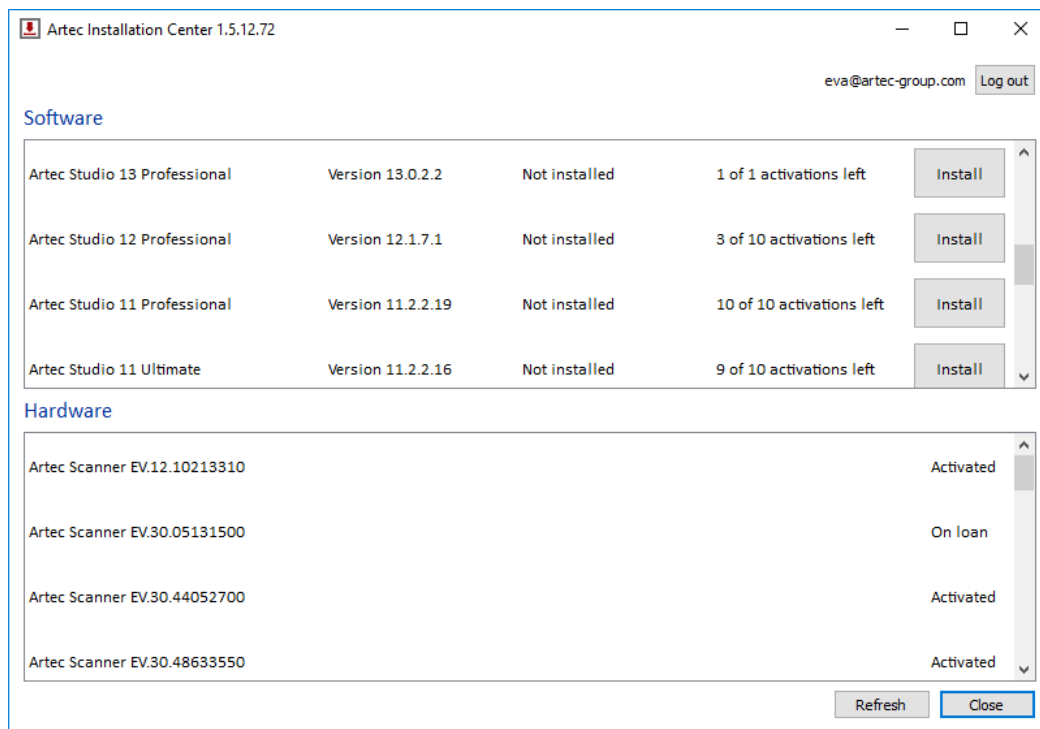

Figure 35: Artec Installation Center.
1. Run Artec Installation Center (go to the Start menu: click *Start* → *All Programs* → *Artec Group* → *Artec Installation Center*) to bring up the window shown in Figure 35.